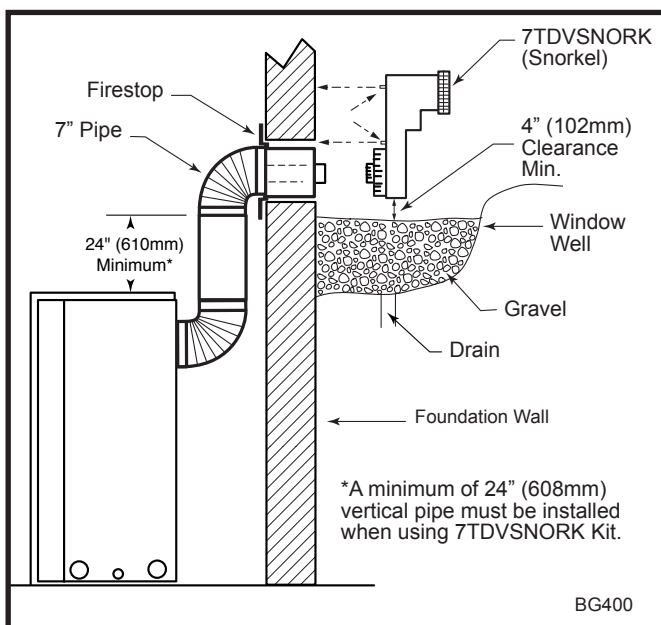

Fig. 30 Below grade installation.
2. Remove soil to a depth of approximately 16" (406mm) below base of snorkel. Install window well (not supplied). Refill hole with 12" (305 mm) of coarse gravel leaving a clearance of approximately 4" (102 mm) below snorkel. (Fig. 30)
7. Level the soil to maintain a 4" (102 mm) clearance below snorkel. (Fig. 30)